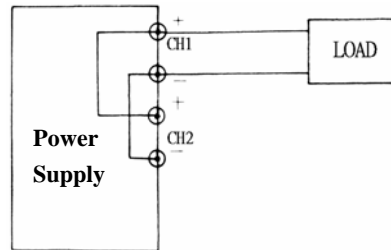

Fig. 5-5 Parallel Tracking Operation
- G. Connect the negative connection of the device being powered to the black (-) terminal of the CH1 power supply. The configuration is shown as Fig. 5-5: